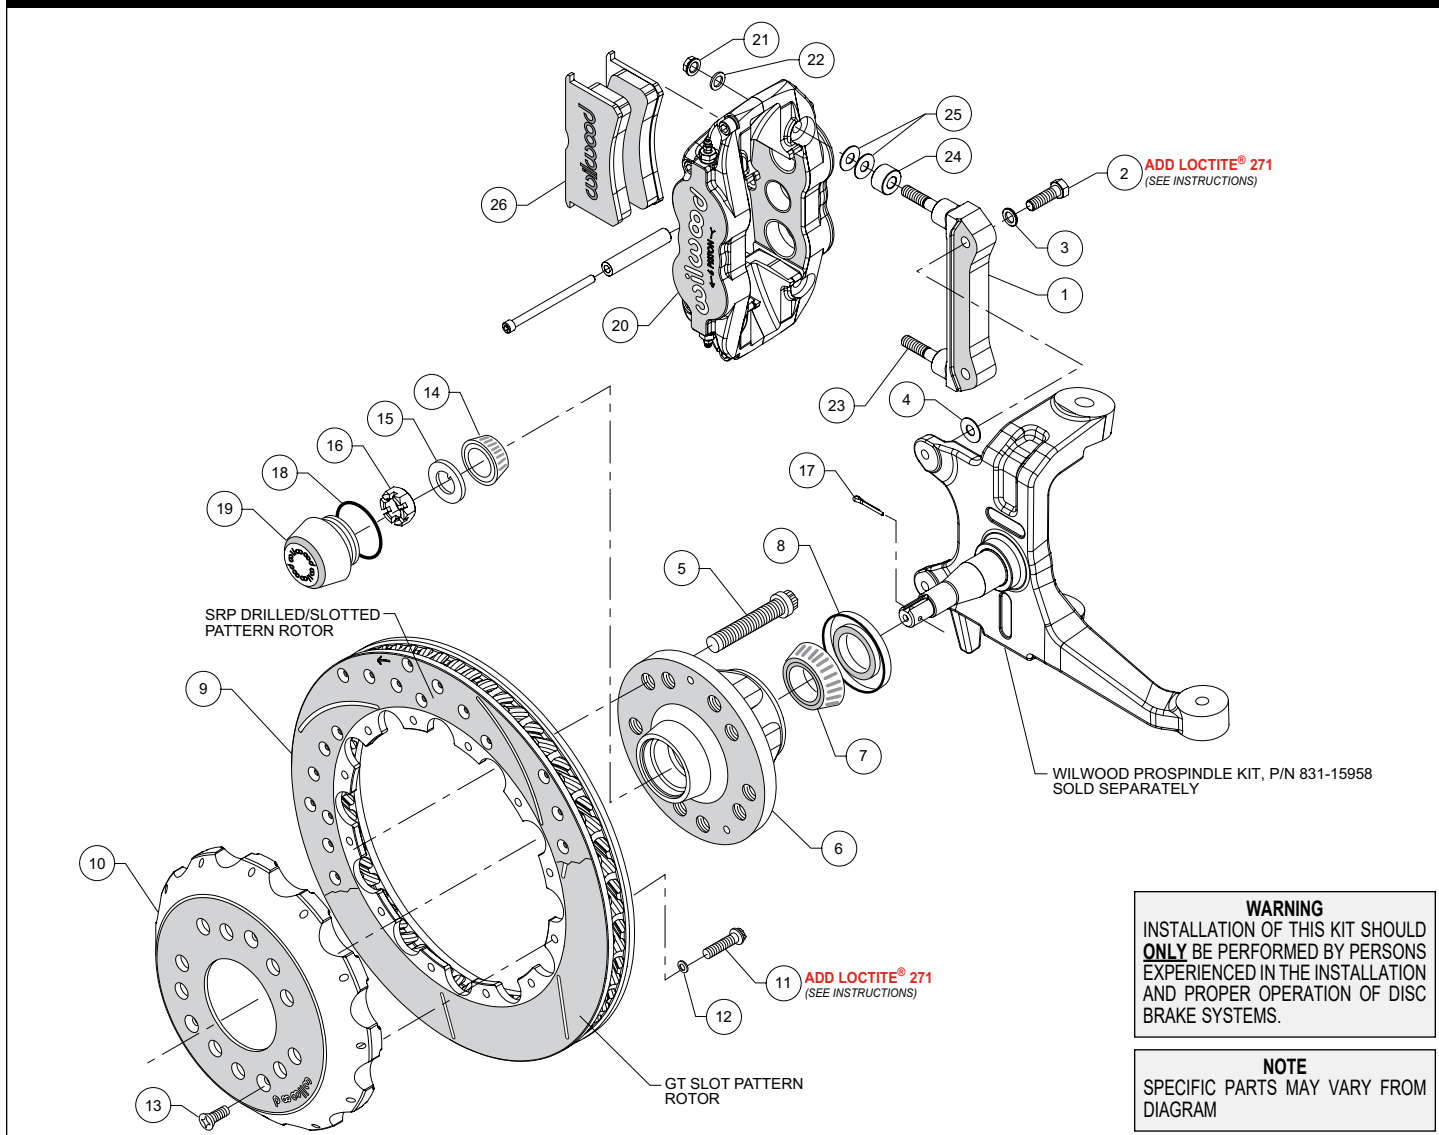
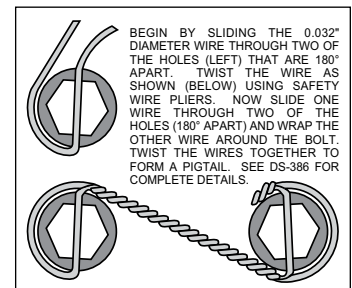

Figure 1. Typical Installation Configuration
Figure 3. Safety Wire Diagram
NOTE: Numbers in parenthesis refer to the parts list and Figure 1 on the preceding pages.
- The caliper mount bracket (1) should initially be installed with clean, dry threads on the mounting bolts. Orient the bracket as shown in Figure 1, and install using bolts (2) and washers (3). Initially place one .035" thick shim (4) on each bolt between the bracket and spindle, Figure 1 and Photo 1. Temporarily tighten the mounting bolts. **NOTE:** *The bracket must fit squarely against the mounting points on the spindle.* Inspect for interference from casting irregularities, machining ridges, burrs, etc. Later, after the caliper alignment has been checked, the mount bolts will be secured using red *Loctite*® 271.
- Install wheel studs (5) into the hub (6), Photo 2. Torque to 77 ft-lb. **NOTE:** *There are two five lug patterns in the hub (5 x 4.50 and 5 x 4.75).* Ensure the correct hub stud pattern is being used to fit the wheel application.
- Pack the large inner bearing cone (7) with high temperature disc brake bearing grease (available from your local auto parts store) and install into the backside of the hub (6), Photo 3.
- Install the grease seal (8) by pressing into the backside of the hub (6), flush with the end of the hub, Photo 3.
- Pack the small outer bearing cone (14) with high temperature disc brake bearing grease and install into front of hub (6). Slide the hub assembly onto the spindle. Secure using spindle washer (15) and spindle nut (16), Photo 4. Bearing adjustment: Tighten the nut while turning the hub. When there is a slight bind on the bearings, they are seated correctly. Back the nut off about 1/6 to 1/4 of a turn, or sufficiently to allow .001" to .007" end play. **WARNING:** *Failure to back off adjusting nut could cause bearing to run hot and be damaged, which could cause the wheel to lock or come off.* Install a new cotter pin (17).
- Screw dust cap (19) into hub (6). Friction created by the o-ring (18) on the dust cap keeps it from unscrewing. **NOTE:** The O.D. of the existing OEM spindle washer may be larger than the I.D. of the dust cap not allowing it to seat against the hub face. Therefore, use the spindle washer (15) supplied with the kit instead of the OEM washer.
- Orient the rotor (9) and the hat (10) as shown in Figure 1 and Photo 5. Attach rotor to hat using bolts (11) and washers (12). Apply red *Loctite*® 271 to the bolt threads and torque to 155 **in-lb** using a criss-cross pattern. For an added measure of security, the bolts may be safety wired using standard 0.032 inch diameter stainless steel safety wire as shown in Figure 3. Refer to Wilwood's data sheet DS-386 (available at www.wilwood.com/Pdf/DataSheets/ds386.pdf) for complete safety wire installation instructions.
•**NOTE:** *This kit contains distinct right and left hand calipers that must be mounted in a specific direction, as described below.* Initially place one spacer (24) and two .035" thick shims (25) on each stud (23) between the caliper and the bracket, as shown in Figure 1 and Photo 7. Mount the caliper (20) onto the bracket (1) using lock nuts (21) and washers (22), Figure 1. Ensure that the caliper is mounted so the largest pistons are at the rotor exit end of the caliper, in relation to the direction of rotor rotation. Temporarily tighten the lock nuts and view the rotor through the top opening of the caliper. The rotor should be centered in the caliper, Photo 8. If not, adjust by adding or subtracting shims (4) between the bracket and the spindle. Always use the same amount of shims on each of the two mounting bolts. Once the caliper alignment is correct, remove the bracket mounting bolts (2) one at a time, apply red *Loctite*® 271 to the threads, and torque to 40 ft-lb.